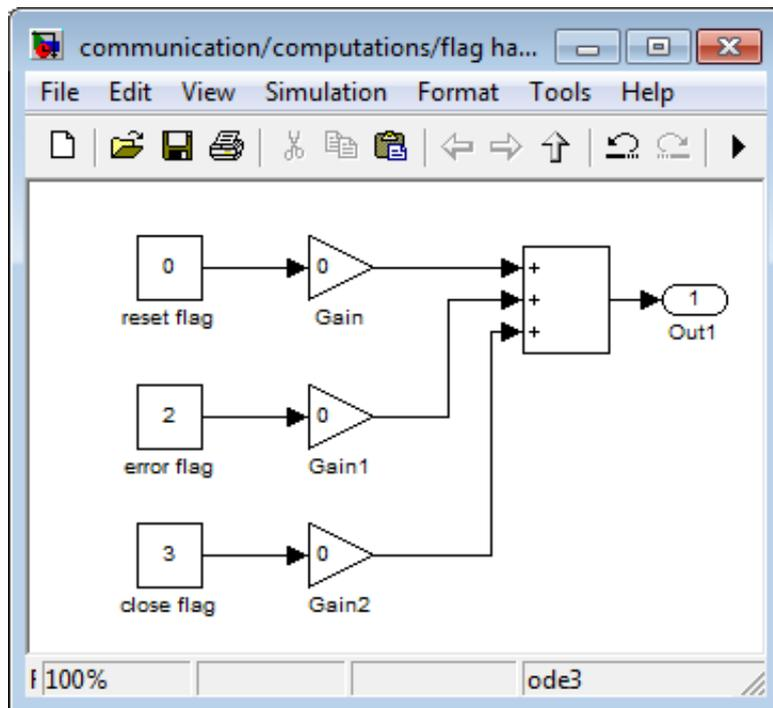

Figure 3.62: TCP/IP subsystem “flag handling out”
(6) Open the subsystem "flag handling out", see figure 3.62. In default no handling flags are transmitted to HOTINT.